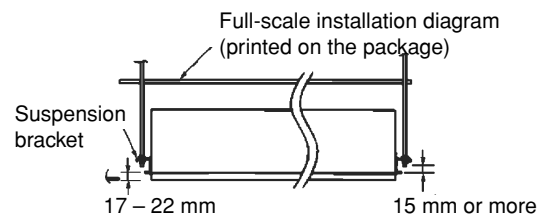

Fig. 3-8
The length of the suspension bolts should extend a minimum of 15 mm beyond the bottom of the unit suspension bracket. Refer to Fig. 3-8.
- (4) The indoor unit should be suspended from the suspension bolts (Fig. 3-7) so that the distance between the bottom of the suspension lug and the bottom surface of the ceiling is 17 to 22 mm. (Fig. 3-8) Clearance between the indoor unit and the bottom surface of the ceiling is adjustable after the ceiling panel is attached to the unit.